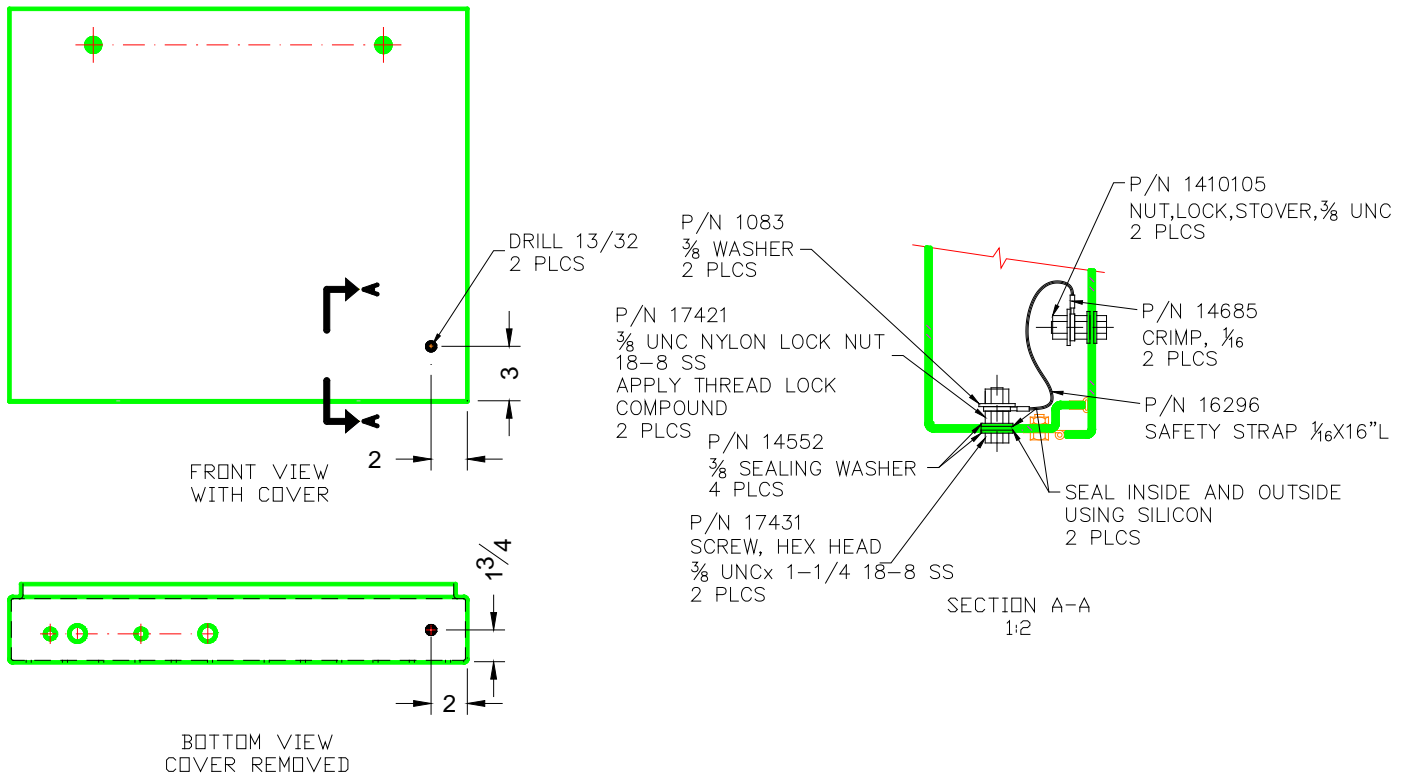

Figure 1
2. Drill 13/32” holes at specified location as shown in Figure 1.
3. Install hardware and seal holes with silicone sealant as shown in Figure 1.